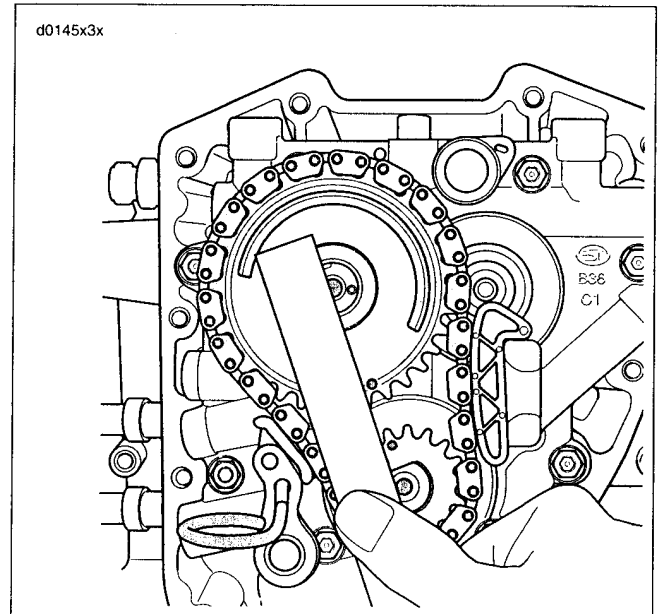

Figure 3-74. Verify Alignment of Crank and Rear Cam Sprocket Punch Marks
- b. Place the crank sprocket (5) in the opposite end of the chain with the punch mark on the sprocket tooth facing straight upward.
13. See Figure 3-74. Rotate the rear cam sprocket in a clockwise direction until the punch mark on the root is aligned with the punch mark on the crank sprocket tooth. Lay a straightedge across the centerline of the crank and rear cam sprocket flange bolt holes to verify that the punch marks are in alignment.